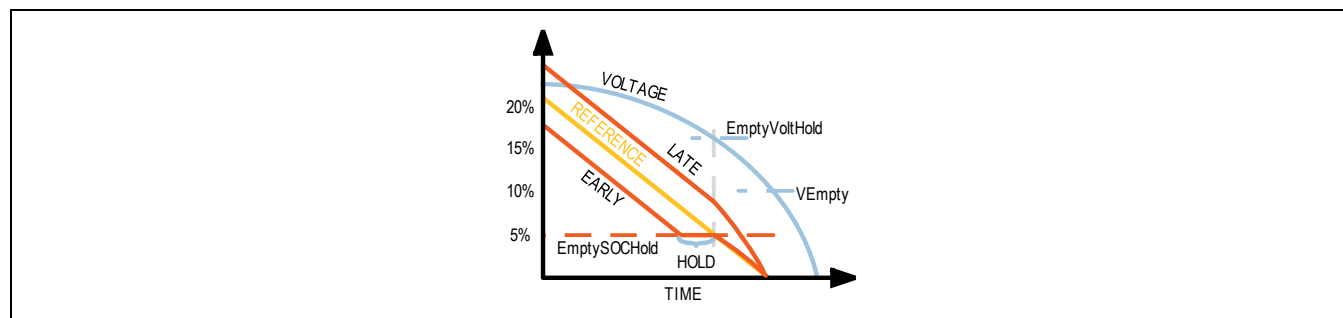

Figure 18. SOC Hold Conceptual Drawing
- Empty Hold.** This feature limits RepSOC to not fall below x% (1% default) until the empty voltage is crossed. This can be useful with operating systems which force system shutdown at a particular battery percentage. A Windows computer, for example, may force the system shutdown or hibernate when the fuel gauge crosses 5%. So setting Empty Hold to 6% can guarantee deeper discharge to a specified voltage level, and thereby often extend runtime. Set desired empty SOC in SOCHold.EmptySOCHold. The MAX77972 holds the SOC until battery voltage drop below $V_{empty} + SOCHold.EmptyV_{hold}$, as shown in Figure 18.